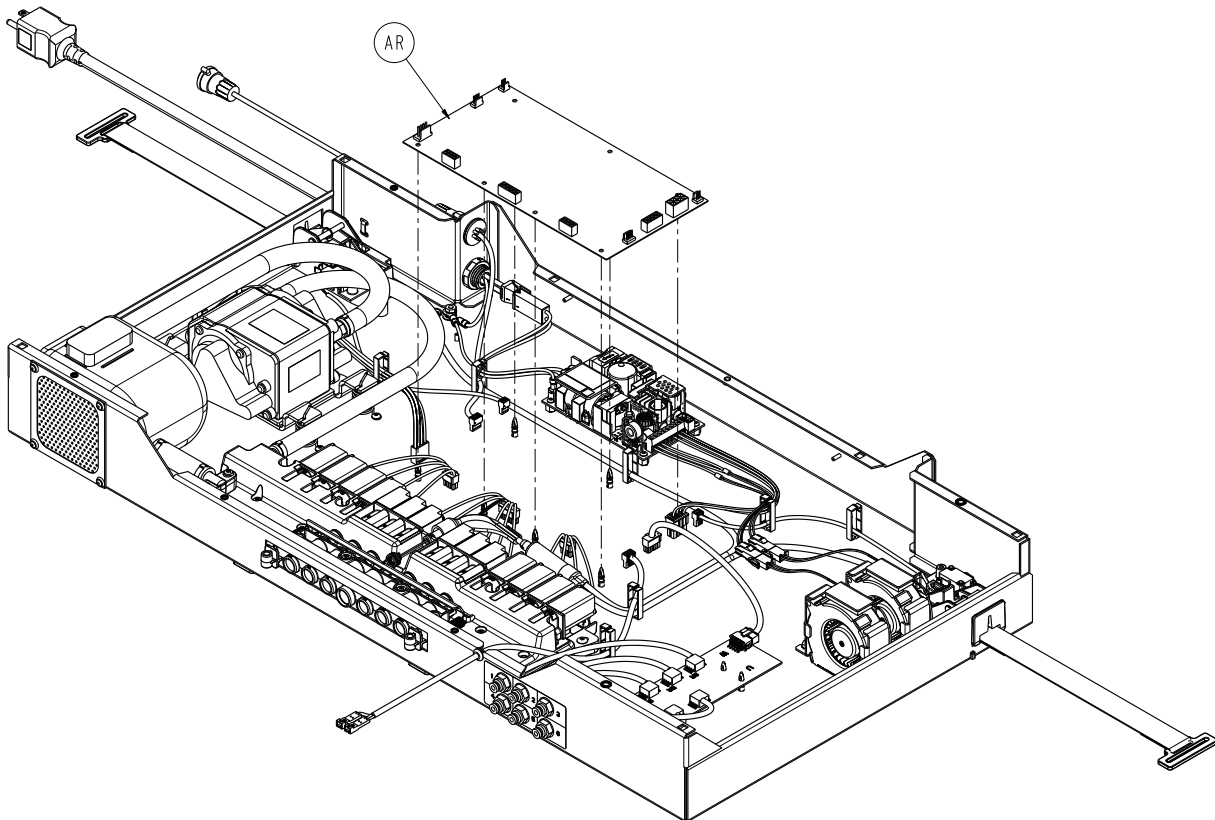

Figure 14 – Main board
3. Remove all wiring connections from the main board (AR) (Figure 14).